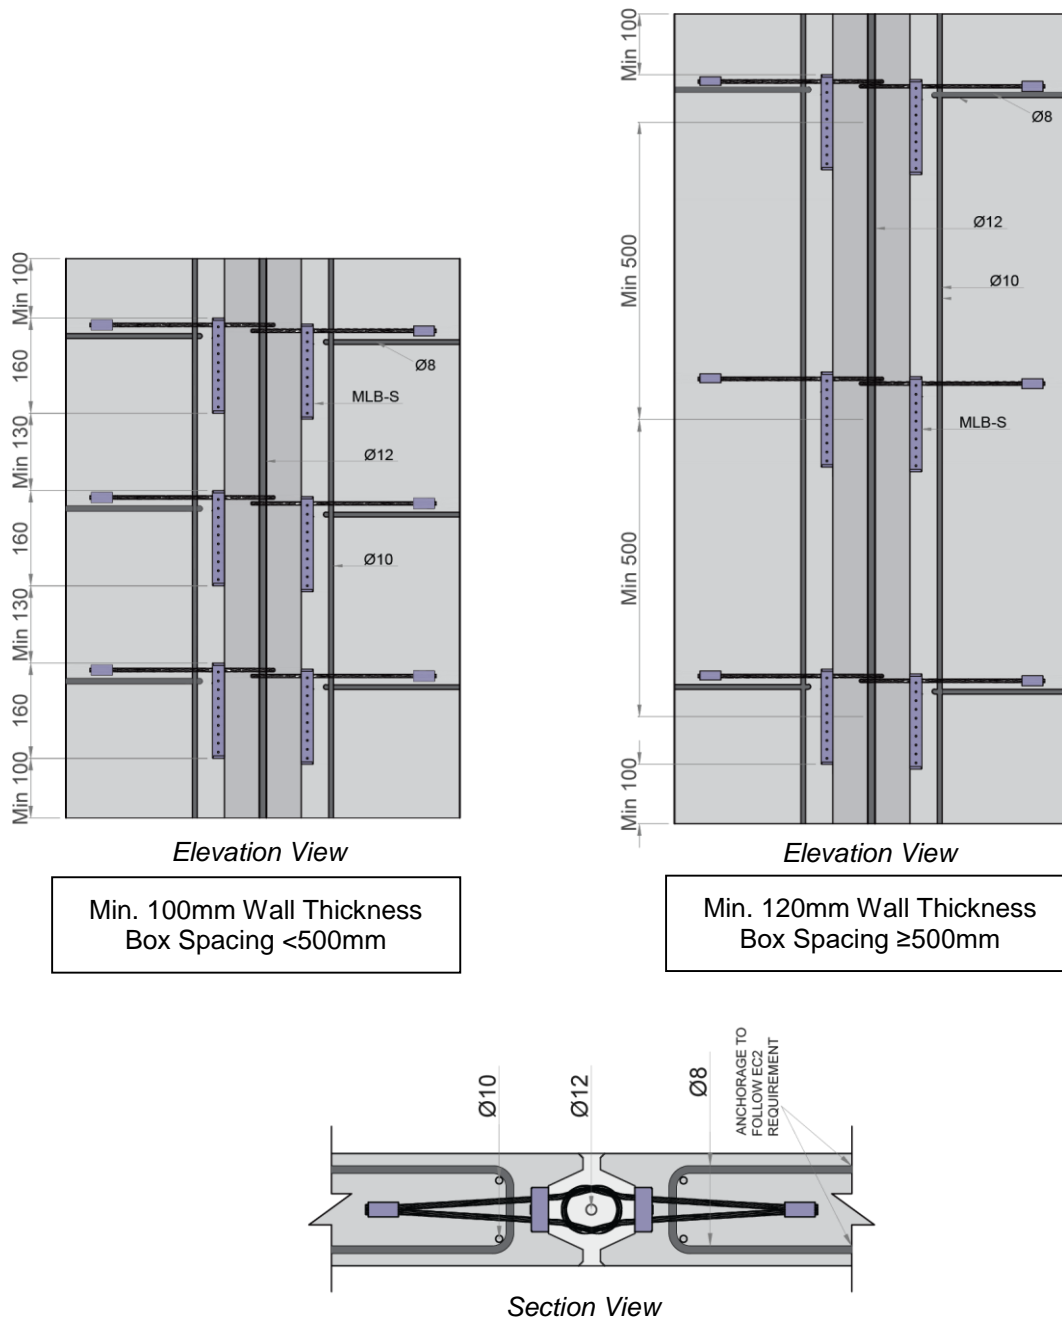

*Figure 7: Procedure for Site Installation.*
1. First, the back cloth cover is removed, and wire ropes unfolded, Figure 7 (A), (B).
2. Then, lower the wall using crane. The flexible wire ropes will just rub against each other, deflect, and spring back into position, without any hindrance to the installation process Figure 7 (C).
4. Then, a suitable grout is poured from above to fill in the gap, Figure 7 (D).